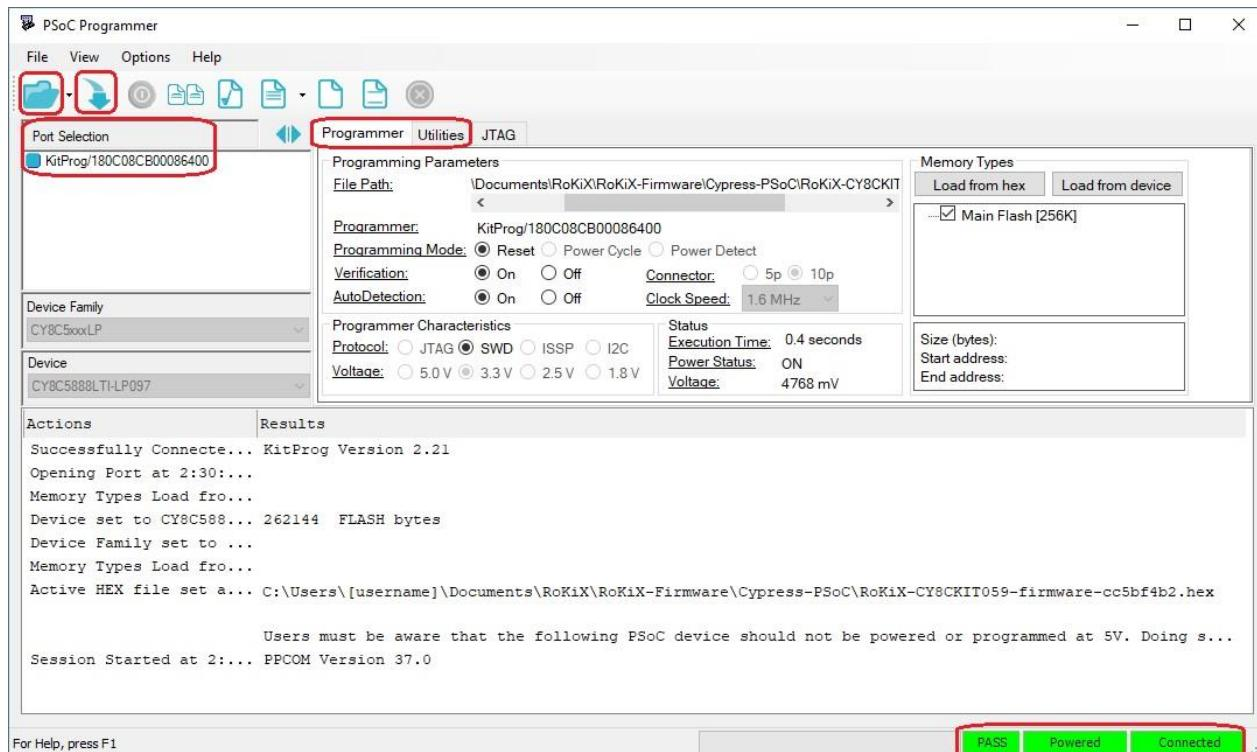

Figure 23. PSoC Programmer GUI
4. Open the *PSoC Programmer* application on your computer. Once opened, verify that **Powered** and **Connected** status messages are displayed in the status bar – the bottom right side of the window (Figure 23). If not, please verify the CY8CKIT-059 *Prototyping Kit* is properly plugged into the USB port.
5. Next, select the firmware *hex* file mentioned in the step 2 by either pressing the Open Folder button or through the menu (File>File Load) or by pressing the F4 key (Figure 23).
6. Next, flash the firmware on the CY8CKIT-059 Prototyping Kit by pressing the Down Arrow button or through the menu (File>Program) or by pressing the F5 key. (Figure 23)